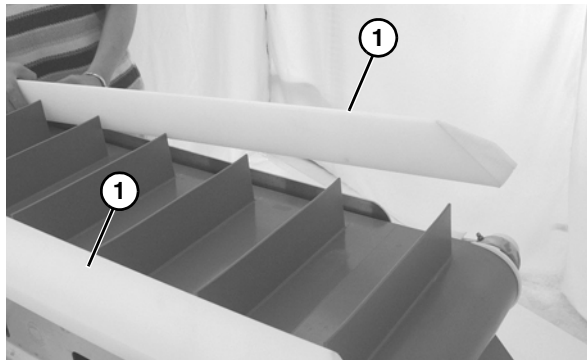

Figure 45
2. Remove the guides (**Figure 45, item 1**).